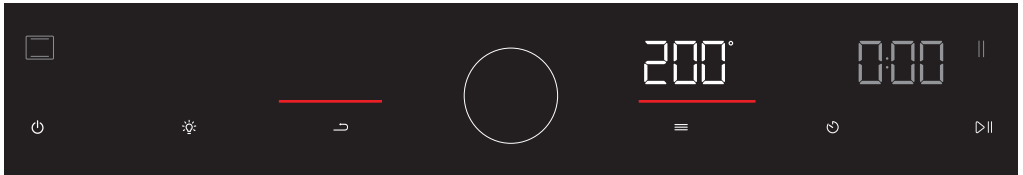
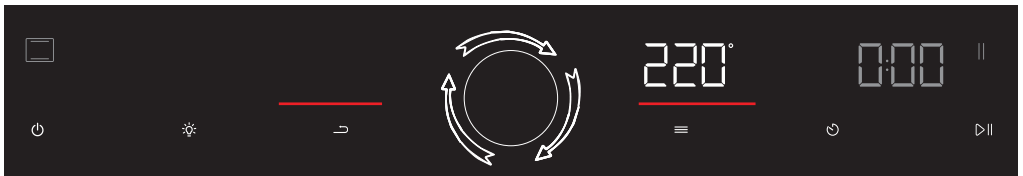
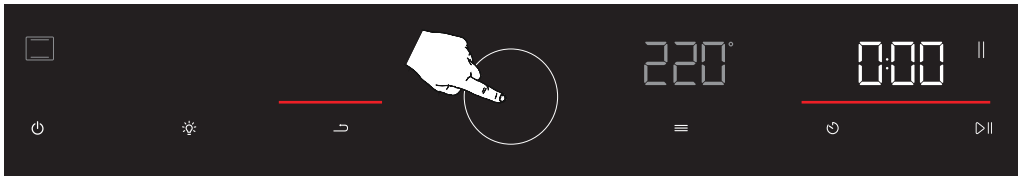

Figure 15
Figure 16
Figure 17
3. After pressing the button, the active setting indicator switches to the temperature indicator. (see figure 15) The desired temperature value is set within the specified limits by pressing the or keys. (see figure 16) Press the confirm button once to approve the desired temperature. (see figure 17)